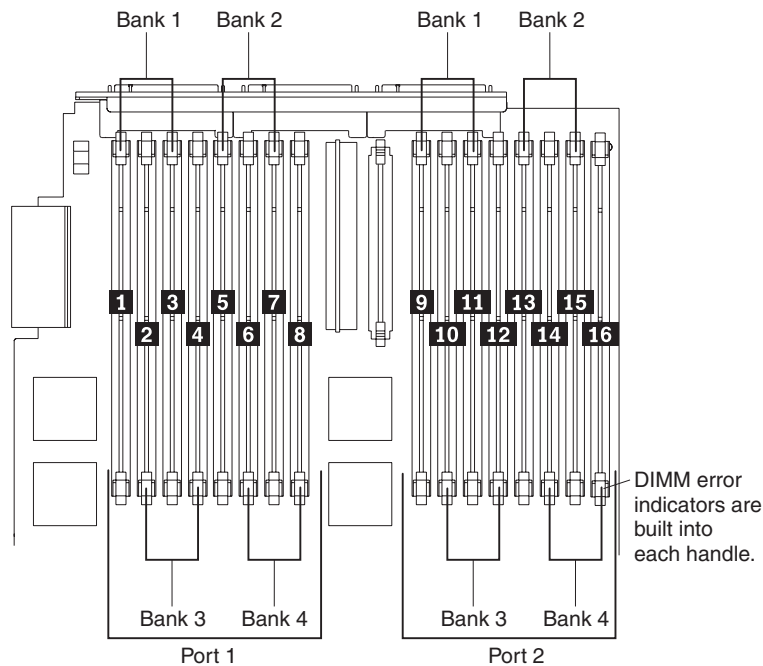

Figure 57. DIMM banks
2. Either port 1 or port 2 (see "DIMM banks", Figure 57 on page 106) must be completely empty. The empty port is where you can add DIMMs.
5. The pair of DIMMs added to a bank (see “DIMM banks”, Figure 57 on page 106) must be of the same size and clock speed.